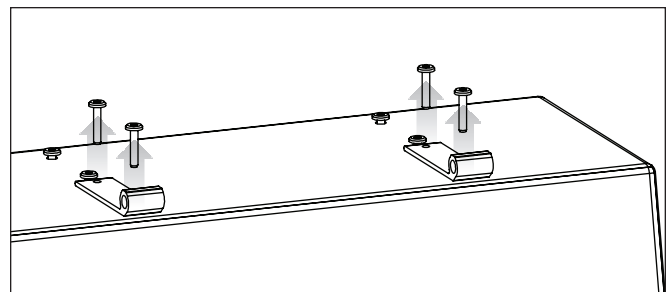

Figure 10. Removing the EFX cabinet brackets.
- 7 Using a 3mm Allen tool, remove four screws (two each) from the cabinet brackets (see figure 10).